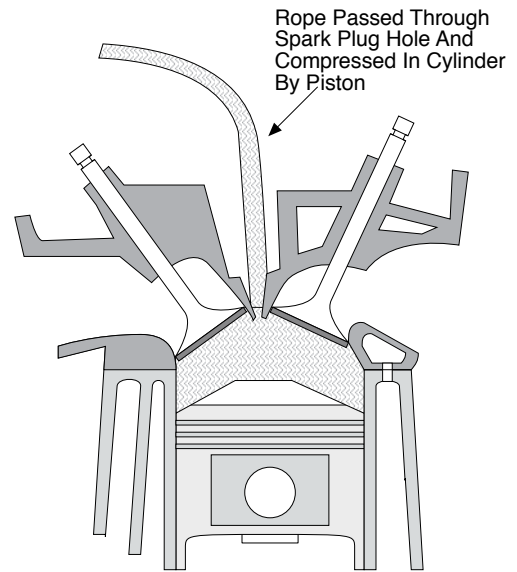

Fig. 2
2. Start with the piston at bottom dead centre and about to ascend on the compression stroke. Feed into the cylinder a one-metre length of nylon rope. Rotate the engine slowly towards top dead centre until resistance is felt. The rope will have compressed against the cylinder head and formed a resilient pad to hold the valves in place (fig. 2). With squish type combustion chambers a longer length of rope may be necessary.